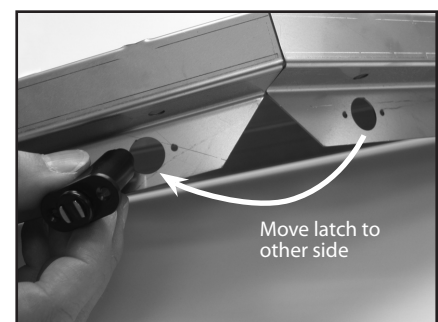

Fig. 07
5. Before replacing the door and rear riser bracket, the latch must be moved to the hole on the opposite side of the riser (Fig. 07). No hardware is needed.